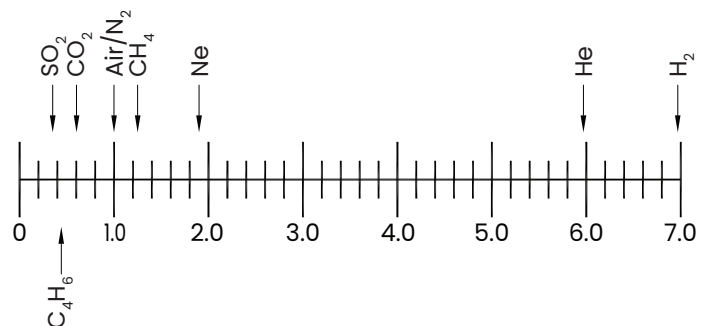

Figure 1: Relative thermal conductivity of Some common gases
*Appendix A. Supplemental information on page 33, contains a table of relative thermal conductivity of common gases. Figure 1 below shows some of these values graphically.*